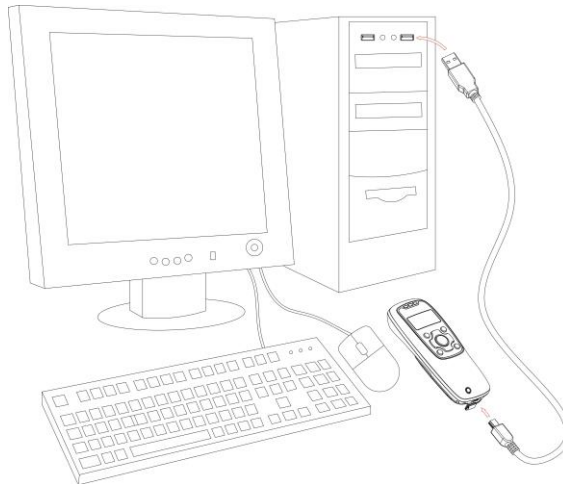

Figure 2-1. Diagram of connecting the scanner to PC
1. Refer to Figure 2-1, plug one end of the USB cable to the scanner. Plug the other end into the USB port of the computer.